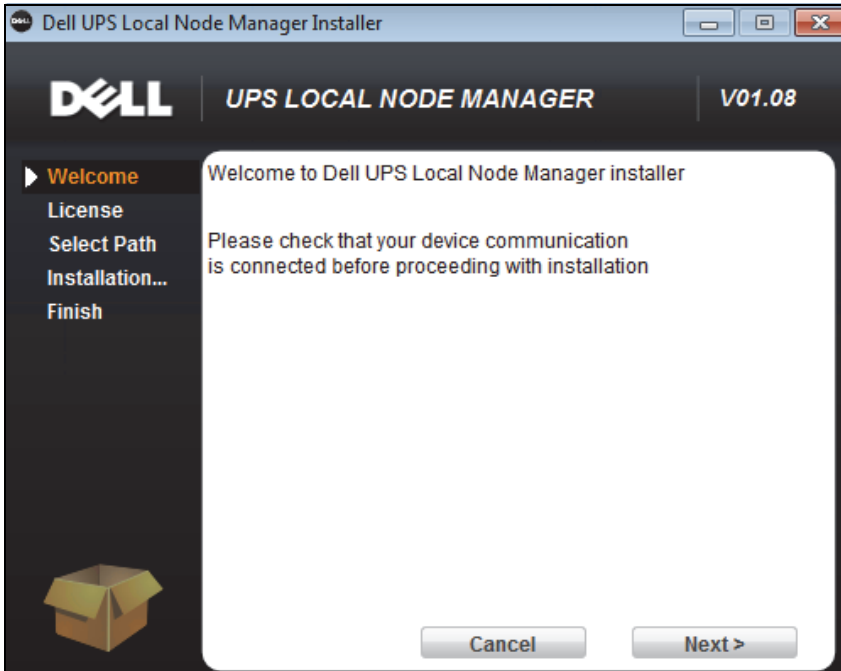

Figure 2. Welcome Screen
- 2 Observe the prompt and verify that the communication device is connected. Click **Next** (see Figure 2). The Login screen displays.